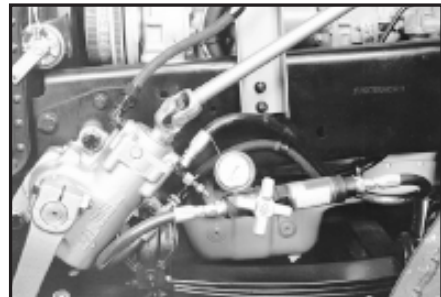

Figure 6.2
1. Install temperature gauge in reservoir. *Figure 6.1*. Install PSSA in pressure line with shut-off valve fully open. *Figure 6.2*. Park the vehicle outside. Record ambient temperature. Run the engine at governed RPM for 40 minutes to bring the fluid up to an elevated testing temperature. Measure and record the fluid temperature at the start and at 10, 20, 30, and 40 minutes. Do not allow the temperature to exceed 250° (121°C)